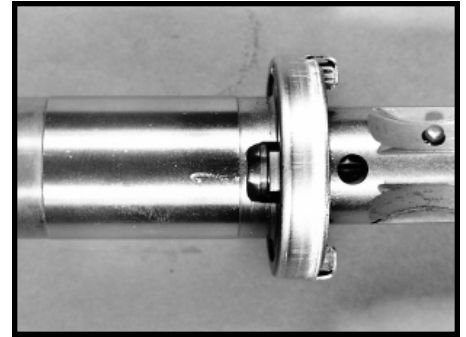

Figure 62
WARNING: DO NOT DISASSEMBLE THE WORM SHAFT/INPUT SHAFT ASSEMBLY (16), WHICH INCLUDES THE WORM SHAFT, INPUT SHAFT, TORSION BAR, TORSION BAR PINS, DRIVE RING AND DRIVE RING RETAINER, AND INSERT. DO NOT UNBEND THE DRIVE RING RETAINER TANGS THAT HOLD THE DRIVE RING IN PLACE. SEE FIGURE 62. DOING EITHER WILL ALTER THE VALVE TIMING, WHICH COULD CAUSE THE VEHICLE TO PULL TO ONE SIDE OR THE OTHER.